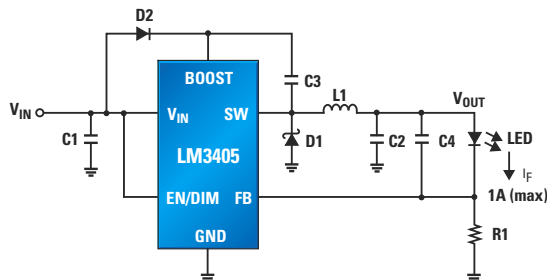

Figure 1. Typical Application Circuit
**Figure 1: The Rohde & Schwarz ZVA-series of 300-kHz to 40-GHz RF vector network analyzers offer a true-differential source and measurement option that takes the guesswork out of characterizing active differential components, including structures common in modern RFICs.**
With its R&S ZVA series of 300-kHz to 40-GHz RF VNAs (Figure 1), which offer an optional TruDi (true-differential) measurement mode, leading VNA supplier
Figure 1 shows the typical application circuit using the LM3405 regulator driving a single LED. The boost voltage can be derived from  $V_{IN}$  or  $V_{OUT}$ . The BOOST to SW voltage ( $V_{BOOST-VSW}$ ) should never exceed the operating limit of 5.5V, and must be greater than 2.5V for optimum efficiency.